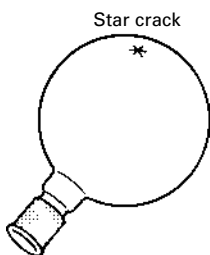

FIGURE 4.5 Round-bottom flask with star crack.
1. **Star cracks.** A little-talked-about phenomenon that turns an ordinary R.B. flask into a potentially explosive monster. Stress, whether prolonged heating in one spot or indiscriminate trouncing on hard surfaces, can cause a flask to develop a **star crack** (Fig. 4.5) on its backside. Sometimes a crack may be hard to see, but if it is overlooked, the cracked flask may split at the next lab.